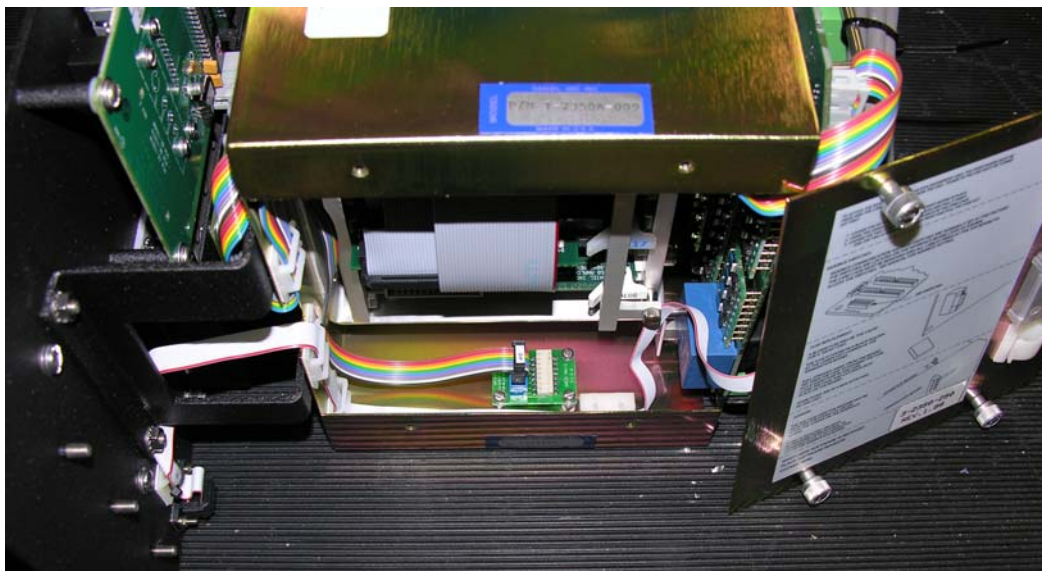

Figure 3-7. Right Side View of Rack Mount and Panel Mount Controllers
3. For rack mount and panel mount Controllers, use a flat head screw driver to remove the access panel on the right side of the card cage assembly (see Figure 3-7).